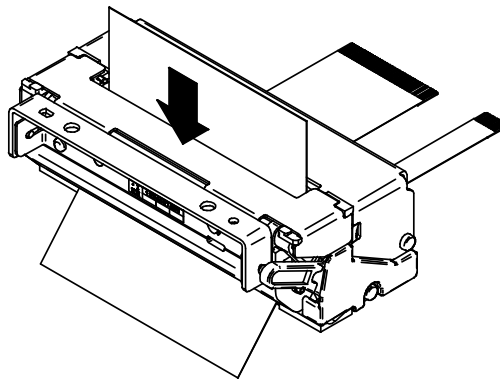

Figure 8-1c Installing the Thermal Paper by the Easy Operation
- Set the platen block in the Figure 8-1c after making sure that the thermal paper is set straight. (Close state)